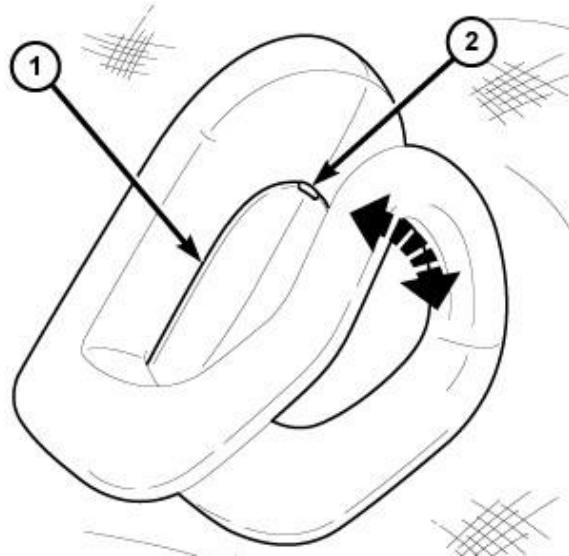

Figure 42 – Coat Hook
12. Using a small flat bladed tool, open the coat hook screw cover (2) then remove the screw and coat hook (Figure 42).
46. Position the coat hooks (5) onto the headliner and install the screws tightening securely into the mounting clips then close the screw cap fully (Figure 42).